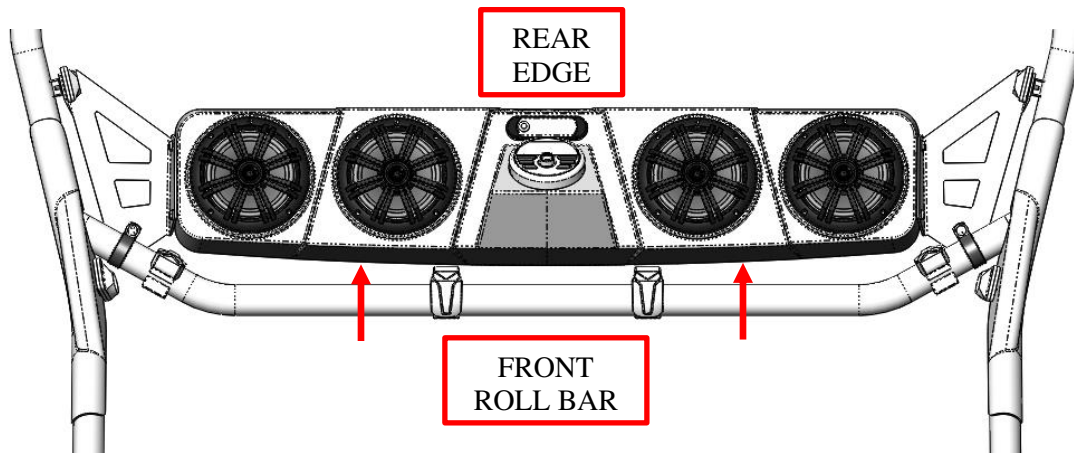

Figure 8: Audio Mini equally spaced from front roll bar.
6. Tighten the 4 bracket mounting bolts so that the *Audio Mini* is equally spaced from the front roll bar. See Figure 8.